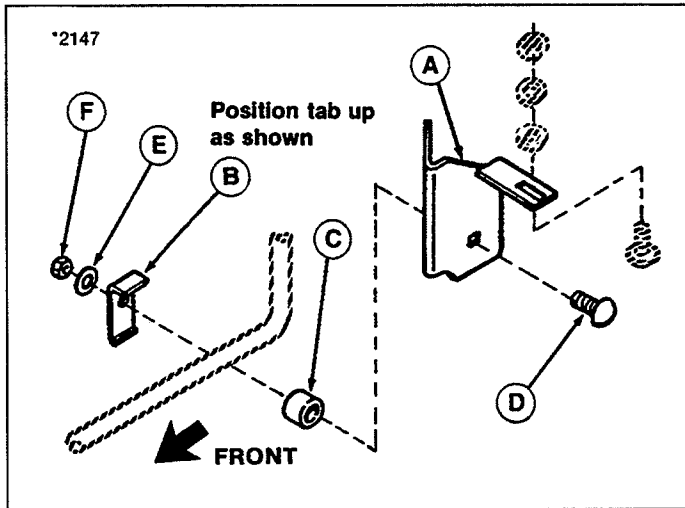

Figure 2.
3. See figure 2. Install baffle assy. (A) to the stone guard (underneath mower deck) using U-bracket (B), spacer (C) carriage bolt (D), lockwasher (E) and nut (F). Reuse hardware removed in step 2 to secure tab on baffle assy. to mower deck.